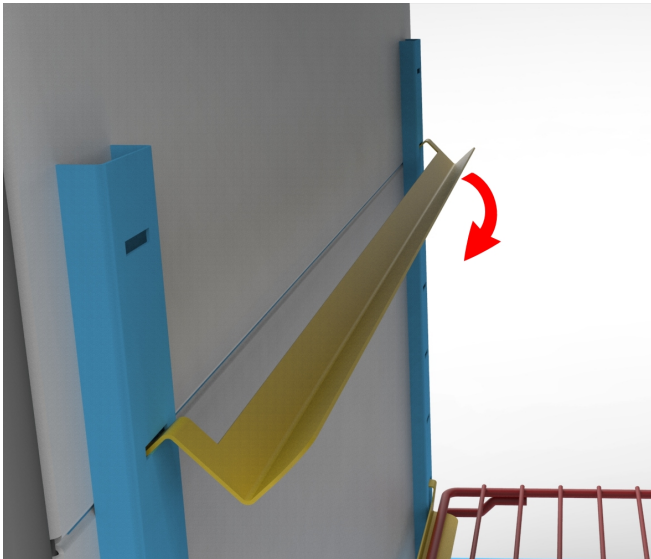

Figure 3:
2. Rotate the runner downwards by 90° so that the runner hooks into place and creates a level surface upon which the shelf can securely rest, as shown in figures 3 and 4